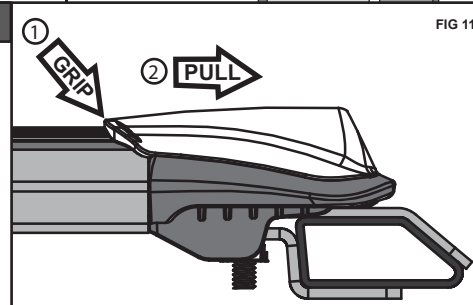

FIG 11
10. Firmly grip the edge of the cover (as shown by arrow [1] in Fig. 11) - with your fingers, and pull the cover towards you (as shown by arrow [2] in Fig. 11)